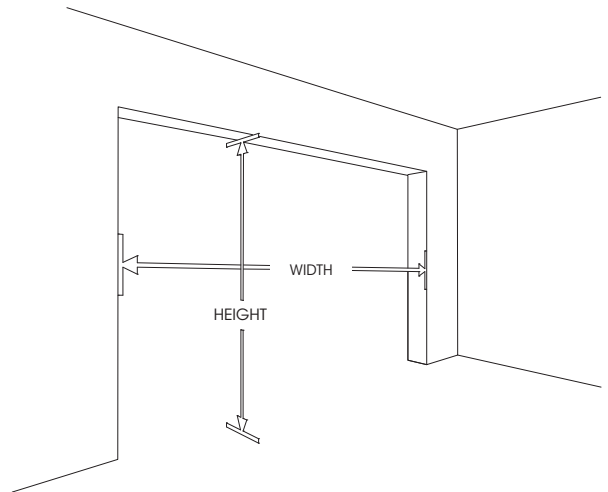

Fig. 1.1
- Measure the height and width of the opening per Fig 1.1, these will be the lengths of your jamb (B) and lintel (A) seals. Lintel seal (A) should be about 6mm longer than opening.